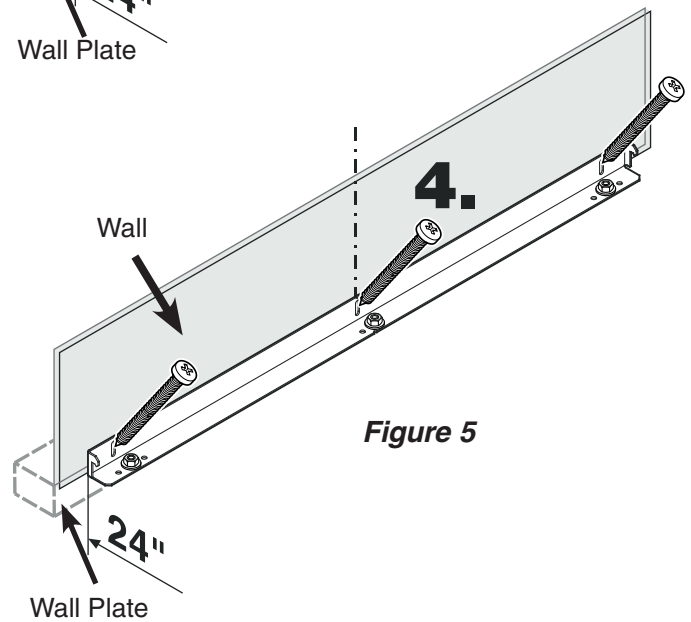

Figure 5
4. Fasten bracket with 3 screws (1/4" x 2-1/8") into the wall plate (**Figure 5**).